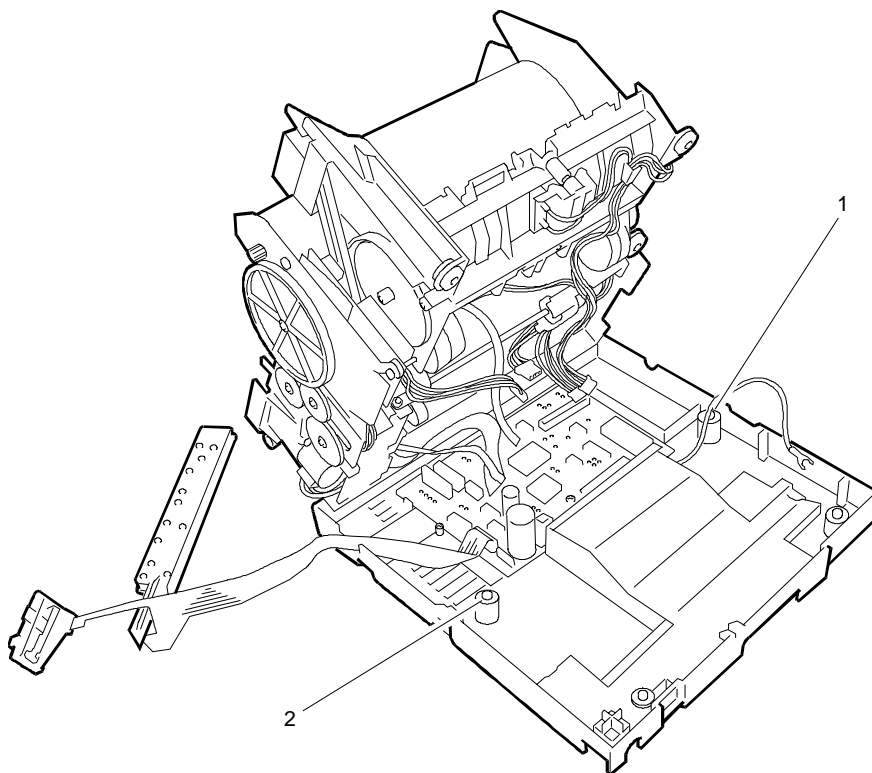
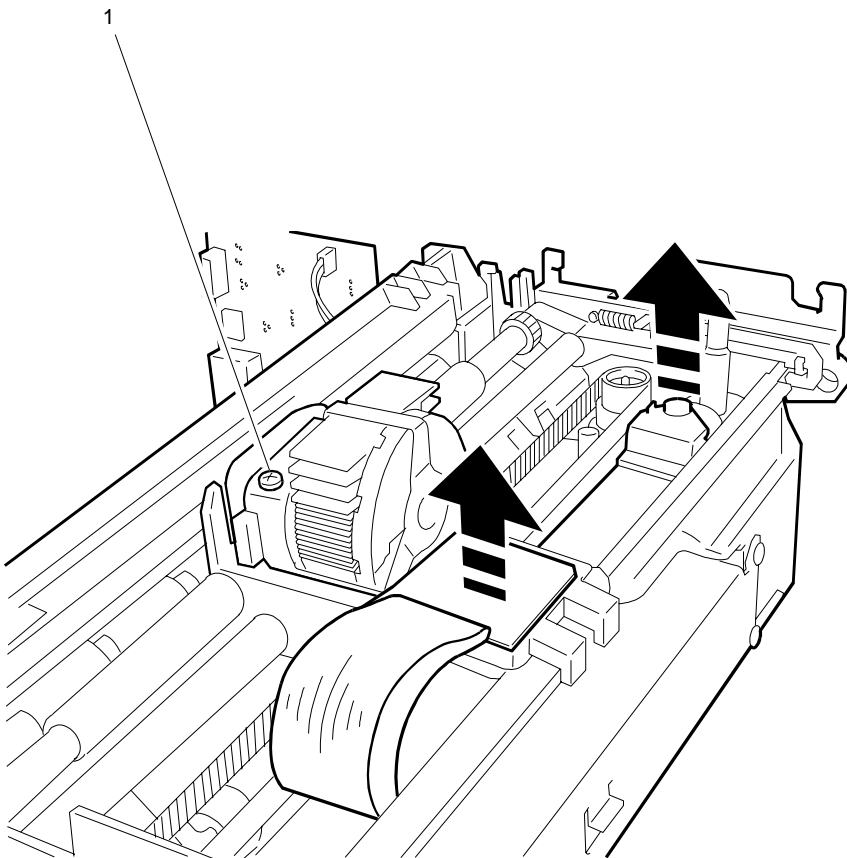

Figure 5-12
Figure 5-13
- Remove the two boards to which the power supply flat cable is connected as shown in Figure 5-13.
- Remove the flat cable guide board upwards (Fig.5-12), after having removed the bracket. Remove the exchanger using a pair of pliers (Fig.5-13).